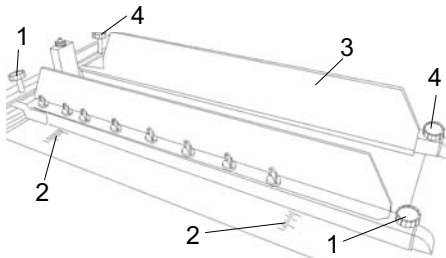

Fig. 2 Setting the sheet size
1. Loosen the handles (Fig. 2/1) by turning them counter-clockwise.
2. Set the left air bracket to half sheet width with the help of the scales (Fig. 2/2).
5. Slide the right air bracket (Fig. 2/3) against the edge of the stack.
6. Tighten the handles of the right air bracket (Abb. 2/4).